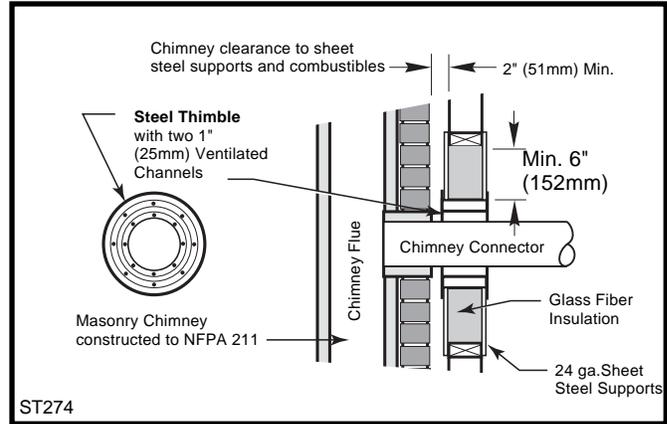

Fig. 9 Wall Pass-through using single wall chimney connector with a ventilated steel thimble.
- Placing a chimney connector pipe inside a steel double-wall ventilated thimble, which is then separated from combustibles by 6" (152mm) of fiber-glass insulating material. (Fig. 9)